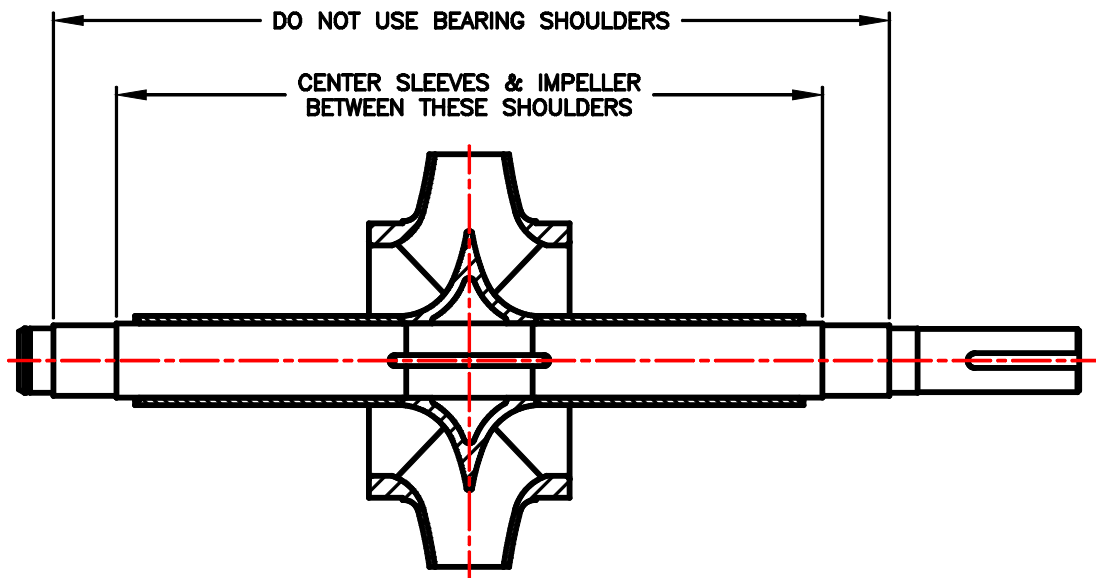

FIGURE 5
- B. If the impeller wear rings (17) require replacement, they are a light press fit and will be secured by one of the following methods. You should proceed as follows:
- C. Install the impeller key (102) in the shaft (4) and slide the impeller (1) over the key, centering it between the shaft shoulders as shown in Figure 5.
**CAUTION: THE LINEAR POSITION OF THE IMPELLER MUST BE OBTAINED AND THE SHAFT SLEEVES MUST BE PROPERLY LOCATED. REFER TO FIGURE 5 ON THE PREVIOUS PAGE OF THIS MANUAL. IF PROVIDED, THE SHAFT SLEEVE NUTS MUST BE TIGHTENED WITHIN 10 MINUTES AFTER THE LOCTITE IS APPLIED. TO ACCOMPLISH LINEAR POSITIONING OF THE IMPELLER, LEAVE AN EQUAL AMOUNT OF SHAFT OR SHAFT THREADS EXPOSED ON EACH END OF THE SHAFT AFTER ASSEMBLY IS COMPLETED. ALLOW 4 HOURS FOR THE LOCTITE TO CURE BEFORE COMPLETING THE PUMP ASSEMBLY.**
- D. Install the shaft sleeves (14), shaft sleeve nuts (213) and O-rings (452), if your pump uses them, on the shaft. The shaft sleeves will be secured by one of three methods and you should proceed as follows:
**Sleeves Secured With Loctite And Sleeve Nuts:** Apply two beads of Loctite No. 601 around the shaft on the shaft/shaft sleeve fit, one approximately 2 inches from the impeller hub and the second at the threaded end. Slide the shaft sleeves part way onto the shaft and rotate them at least one full revolution to evenly spread the Loctite, then slide the sleeves over the shaft until they butt firmly against the impeller hub. Install and tighten the shaft sleeve nuts (213) and the setscrews.
Install the impeller key in the shaft and coat the impeller area on the shaft with Loctite 601. Press the impeller onto the shaft, centering it between the shoulders as shown in Figure 5.